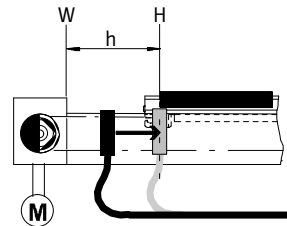

Fig. 30
1. First push the cantilever arm into a mechanical end position (W) → Fig. 30.